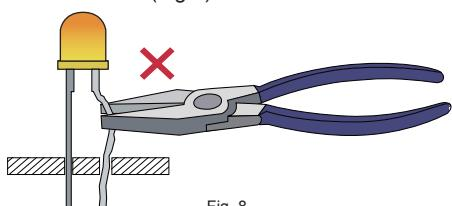

Fig. 8
5. During lead forming, use tools or jigs to hold the leads securely so that the bending force will not be transmitted to the LED lens and its internal structures. Do not perform lead forming once the component has been mounted onto the PCB. (Fig.8)